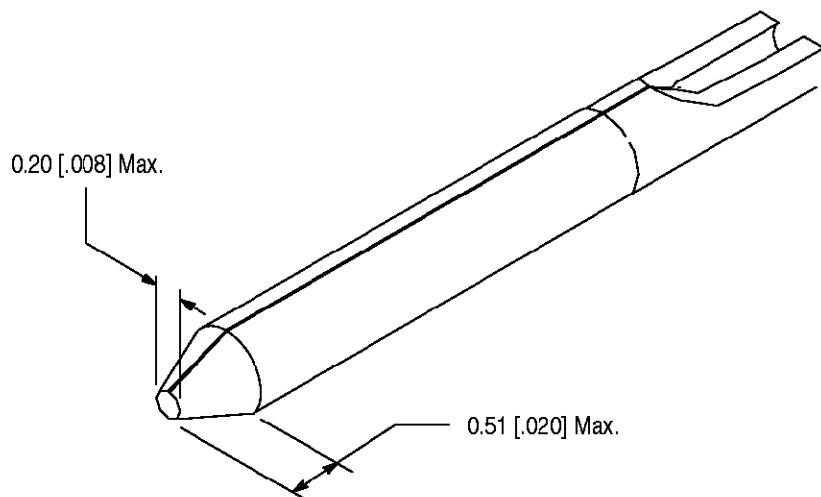

Figure 3
- Added new Paragraph 3.3 and renumbered; and added new Figure 3 and renumbered
Miniature Circular DIN Shielded Right Angle receptacle connectors will mate with compatible free hanging cable connectors. The pin tip configuration of the cable connector should have an 0.20 [.008] (max.) flat and a  $0.38 \pm 0.13$  [.015 ± .005] chamfer length to effectively engage socket contacts of the receptacle connector. See Figure 3.